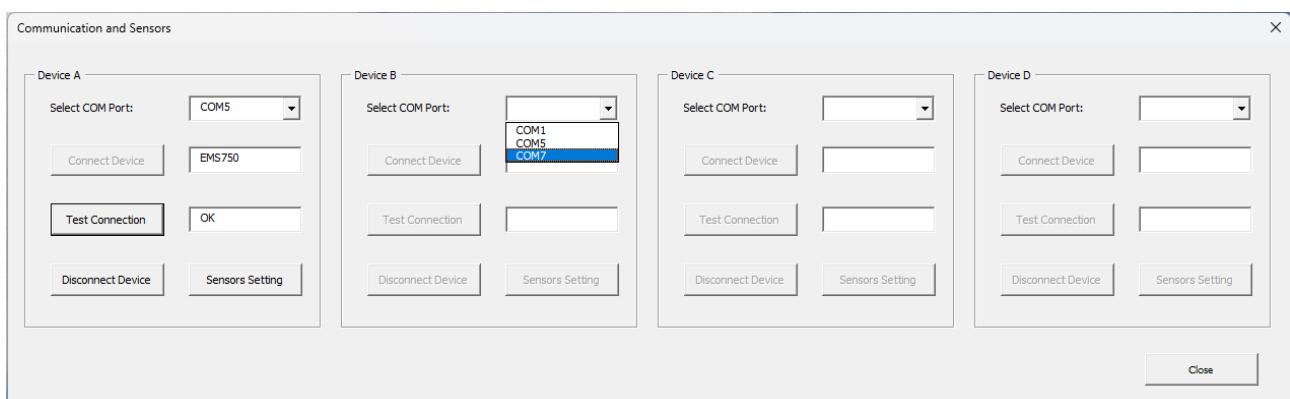

Fig B-2 Menu for connecting to communication ports
The menu for connecting transducers to communication ports is displayed after clicking on **Communication and Sensors**. A window will appear (Fig. B-2) that allows you to connect 4 transducers. The transducers are marked A, B, C, D.
- Select the communication port and click on the **Connect Device** button. After a short time, the type of connected signal conditioner will be displayed in the secondary window, in Fig. B-2 it is EMS750. Note. The program is universal, when using other devices (e.g. EMS720) a different type will be displayed.
The sensor can only be set for one transducer at a time. Select the transducer according to the marking A, B, C or D and press the **Sensor Setting** button. (Fig. B-2). The window according to Fig. B-3 will open.